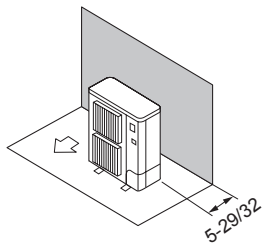

Fig. 3-5
① Obstacles at rear only (Fig. 3-5)